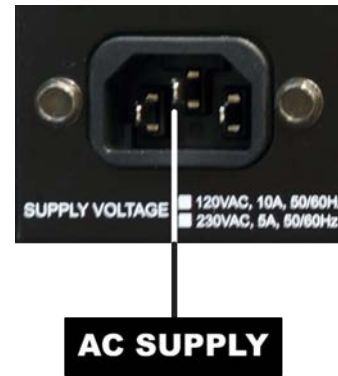

Figure 3.3 – Closeup of AC Mains Outlet
The power cord connects to a standard 3-pin IEC-type male connector on the back panel (see **Figure 3.3**). Make sure the power switch on the front panel is switched to the OFF (O) position. Make sure the power cord is inserted and seated fully into the IEC connector by moving it slightly back and forth and up and down while pushing in. The power cord is relatively stiff and should be routed so that there is no excessive force pulling to the sides or up or down that would stress the pins or internal connections.